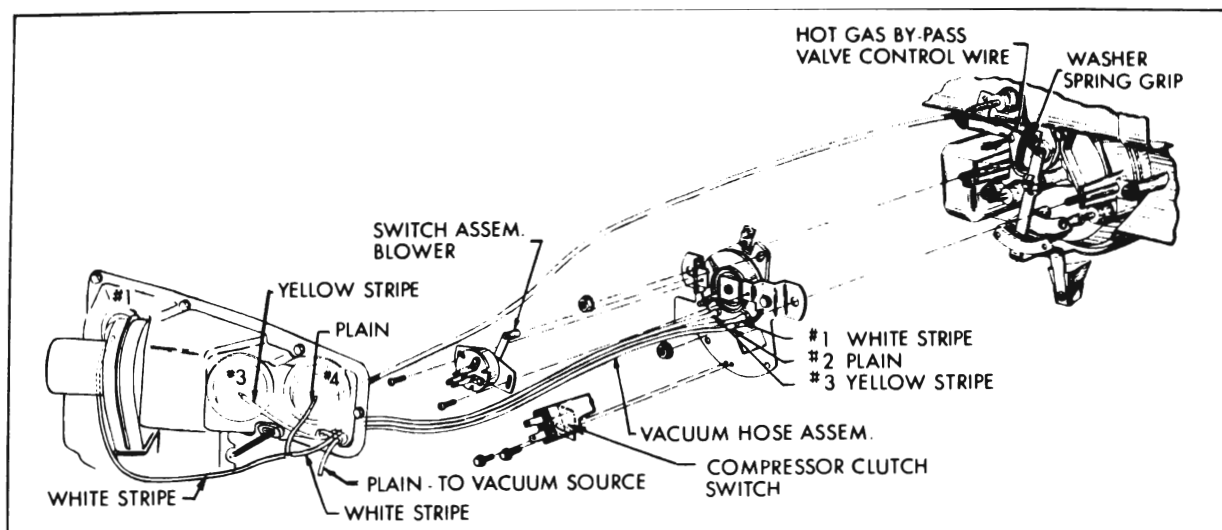

Figure 11-40—Air Conditioner Control System
4. **Control Adjustment.** See Figure 11-40.
- (a) Adjust hot gas by-pass valve control as described in (1) above.